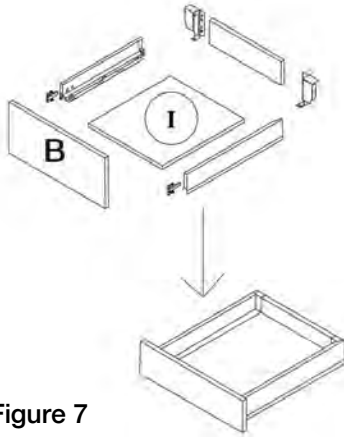

Figure 7
7. Install the drawer as the images below. (Figure 7)